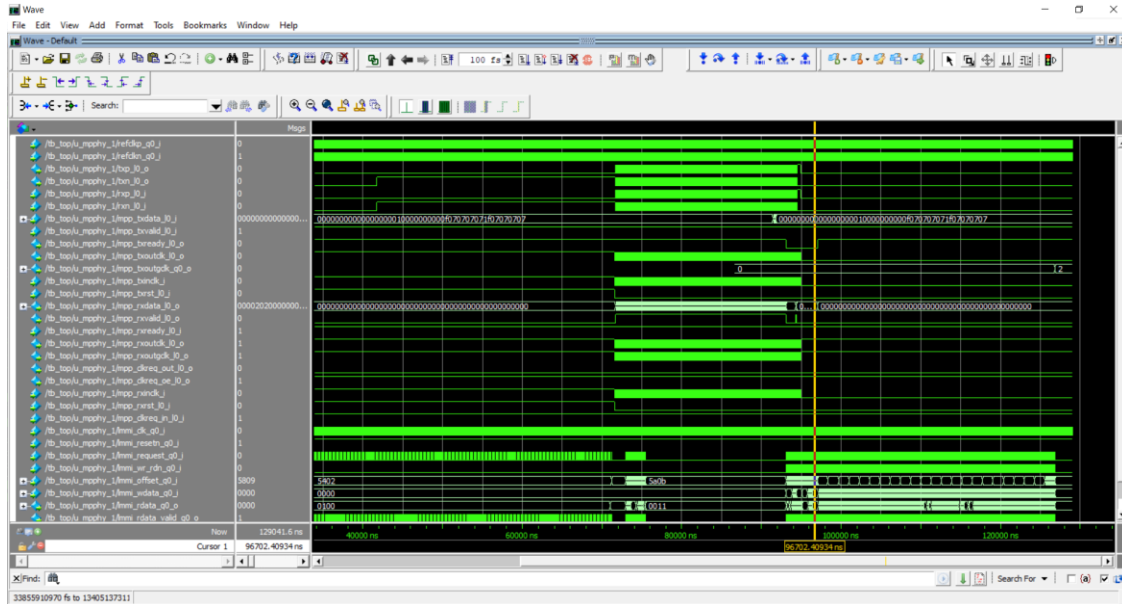

Figure 6.14. Simulation Waveform
- The simulation run completion is indicated by *SIMULATION STATUS* of *ALL TESTS PASS* or *ERRORS DETECTED* in the QuestaSim transcript window. Figure 6.14 shows the example of a simulation waveform.